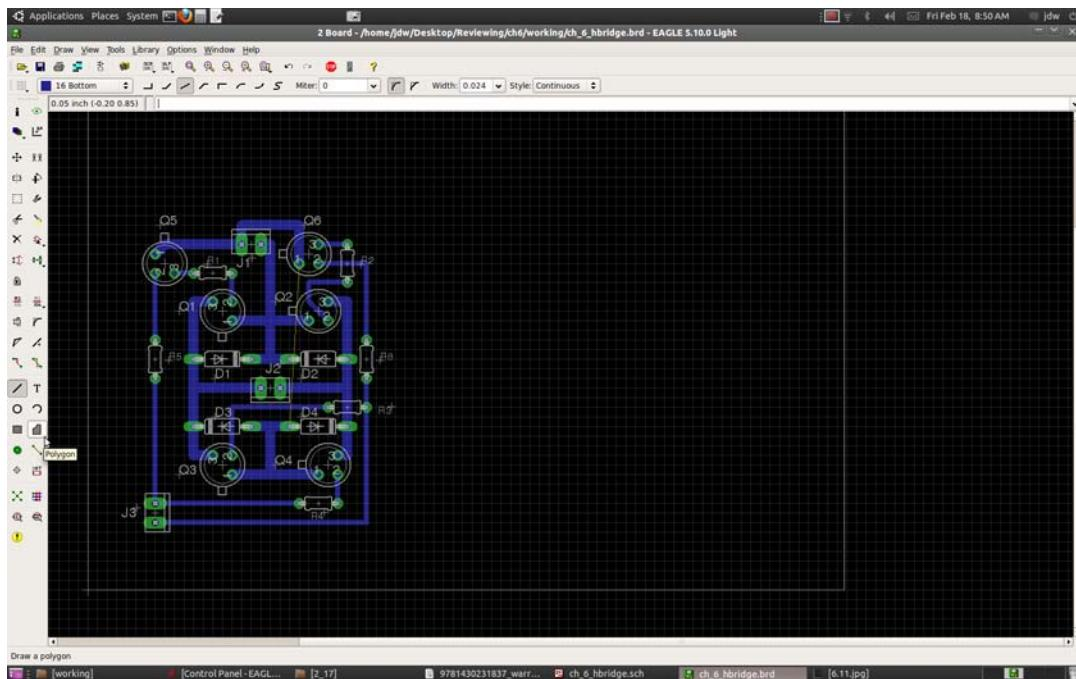

Figure 6-11. Use a smaller wire width to finish the signal traces and then select the Polygon tool to create a Ground plane.
5. *Routing power:* Click the Ratsnest button to remove the yellow virtual wires periodically after replacing them with wire connections. Finish the routing by connecting the remaining wires. You can use the resistors and diodes on this board as bridges to route wires beneath, as done with R2, R3, and D3 in Figure 6-11. You might notice the Ground wire going from Q5 and Q6 to Q3 and Q4 is still unrouted—that wire will be connected using the Ground plane in step 8.
6. *Make a Ground plane:* To fill all empty space on the PCB with a common GND pad of copper, you must select the Polygon tool from the Draw → Polygon menu (see Figure 6-11). Upon selecting the Polygon tool, draw a line completely around the circuit, giving a little padding around the edges. To finish the polygon (actually a rectangle in this example), double click at the starting point. When the line is finished, use the Name tool to change the name of the polygon to be the same as the Ground supply, usually GND (see Figure 6-12).